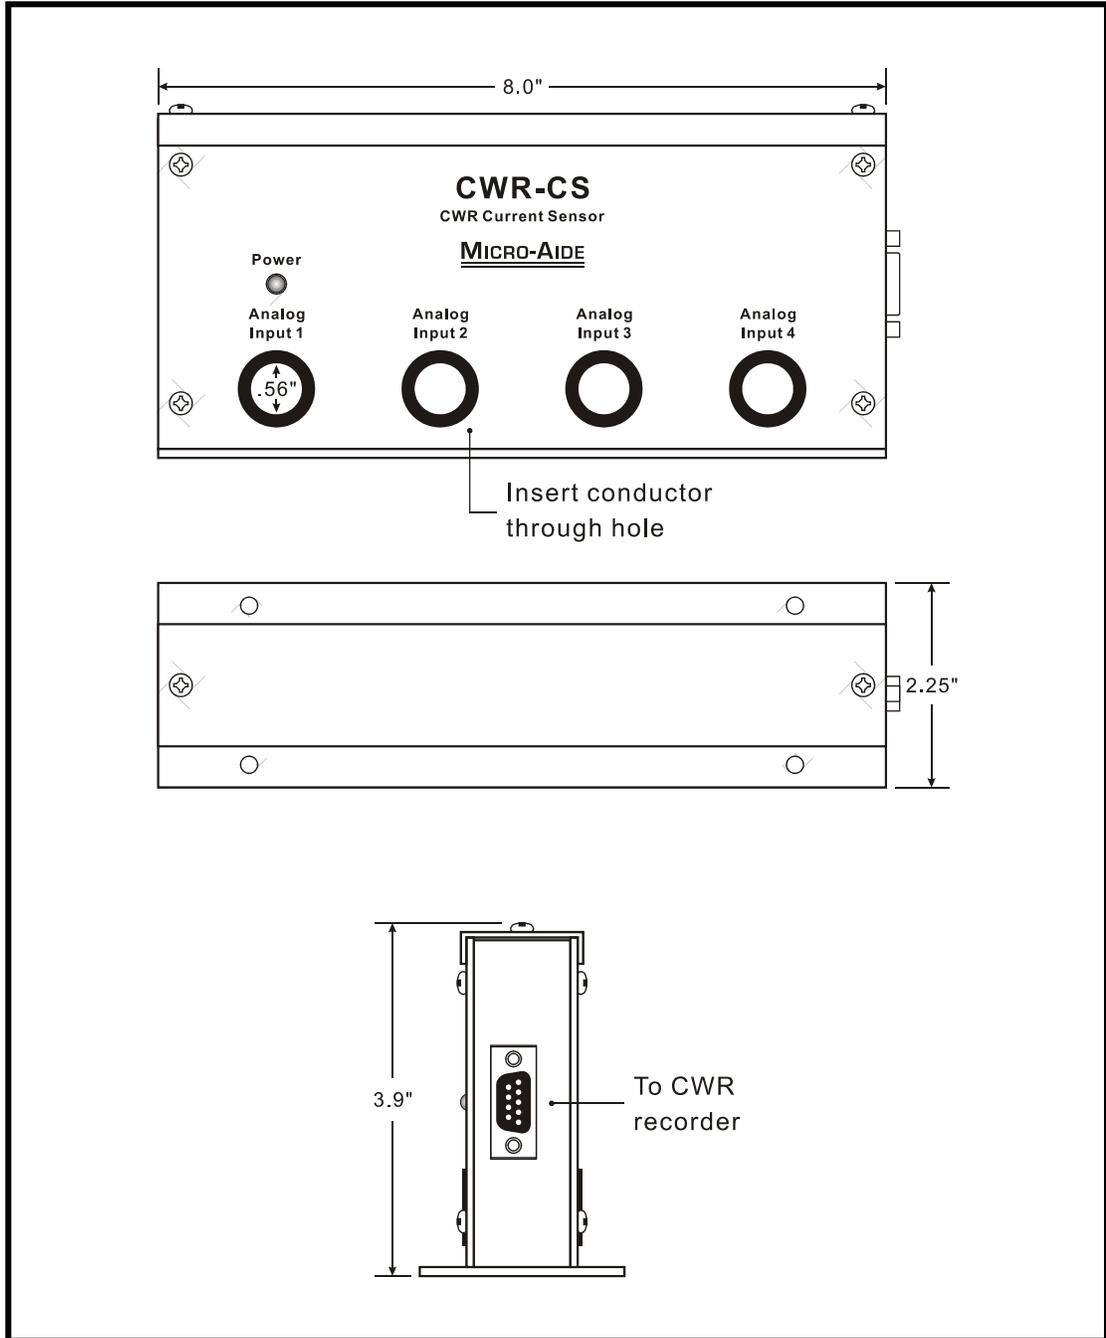

Figure 8 - CWR-CS Front, Top and Side Views
The CWR-CS is an optional accessory that can be used with any MICRO-AIDE CWR series Event Recorder. It is equipped with four general purpose current sensing inputs. Any of the first four Analog Inputs (i.e., A1 - A4) of the CWR-272 can be individually configured to measure either AC or DC current. Refer to the section entitled “Analog Configuration (A)” on page 24. The CWR-CS provides the hardware by which the voltage sensing Analog Inputs of the recorder are converted to current operation. Figure 8 on page 100 provides an illustration of the CWR-CS.
Figure 8 illustrates a typical CWR-CS installation. The unit may be mounted in any orientation (e.g., vertical or horizontal). It is not sensitive to the earth's magnetic field. The base of the unit provides four mounting holes. A shelf or back board makes an ideal mounting platform.